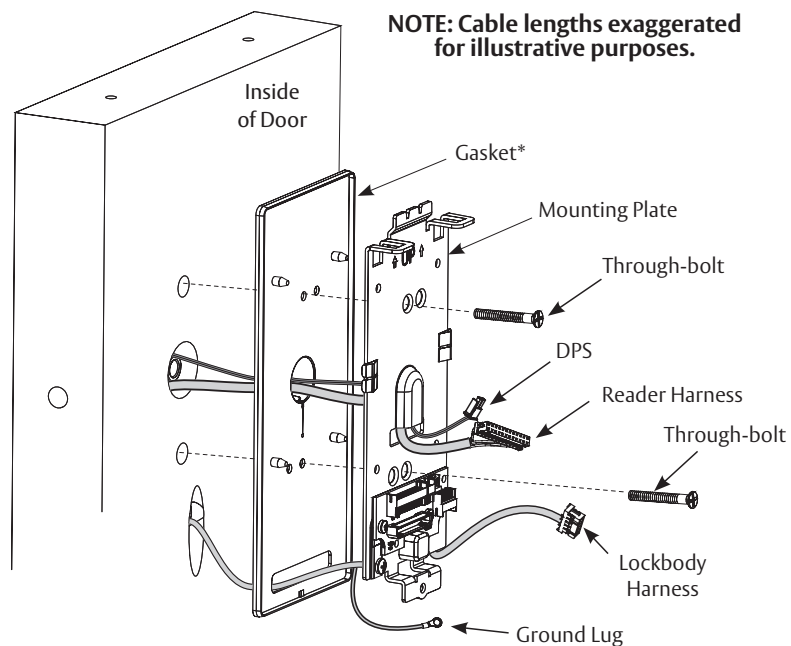

Fig. 23
- Feed reader harness and DPS connectors through inside mounting assembly and gasket if required*. (Figure 23)
- Secure mounting assembly while ensuring proper alignment of outside reader and tighten two (2) through-bolts on inside of door to secure reader. (Figure 23)
- If installing with gasket, separate gasket from mounting plate to feed cables/connectors through holes as indicated (Figure 23)